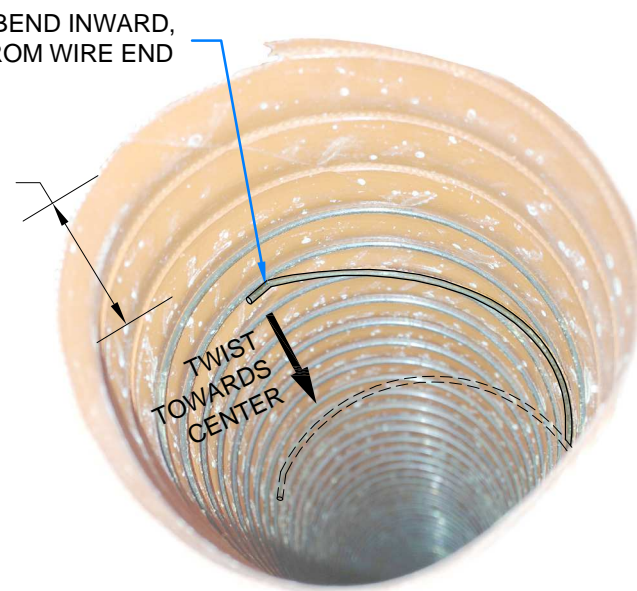

FIGURE 1: SCAT HOSE PREPARATION
Step 3: Modify the ends of the wires inside the scat hoses as shown in Figure 1. The goal is to reduce the diameter of the wire loop and allow the wire to rest inside the unbent loops without pushing against the inside of the orange material.